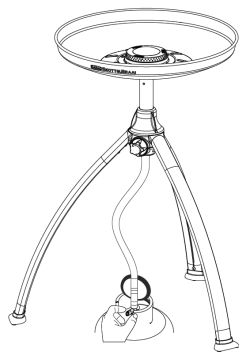

Fig. 8a
- The Control valve is closed by turning the control knob (K) clockwise to its "OFF" position and opened by pushing and turning anticlockwise.
- Adjust the flame intensity to the desired level by turning the Control knob (K) clockwise to decrease the flame and anti-clockwise to increase it (See Fig.8a & b).
- After use, first close the valve on the gas container (where applicable). When the flame has extinguished, close the valve on the appliance by turning the control knob (K) fully clockwise.
- Lighting up using a match or BBQ lighter (See Fig. 8a and 8b)